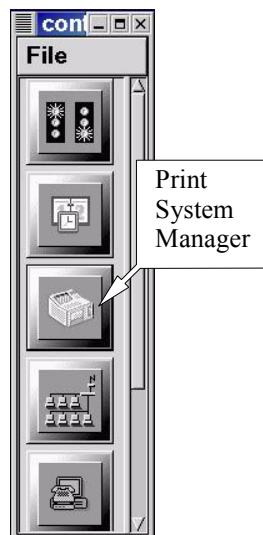

Figure 16-13 Starting the print system manager.
1. **Launch the Print System Manager.** Login as root. Click Main Menu > Programs > System > Control Panel, and then the Print System Manager button. (See Figure 16-13.)